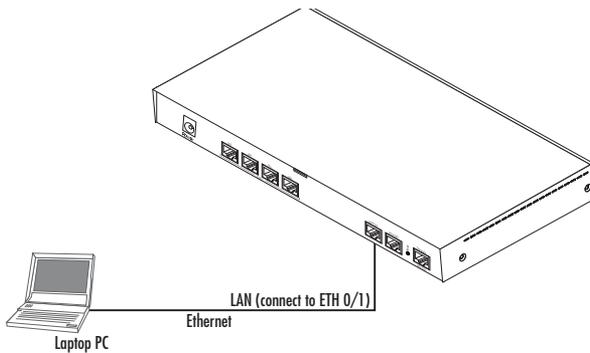

Figure 1. Connecting to the PC
1. Connect the PC's Ethernet port to *LAN (ETH 0/1)* port of the SmartNode 4950. The SmartNode 4950 Series is equipped with Auto-MDX Ethernet ports, so you can use straight-through or cross-over Ethernet cables for host or hub/switch connections. (See figure 1.)